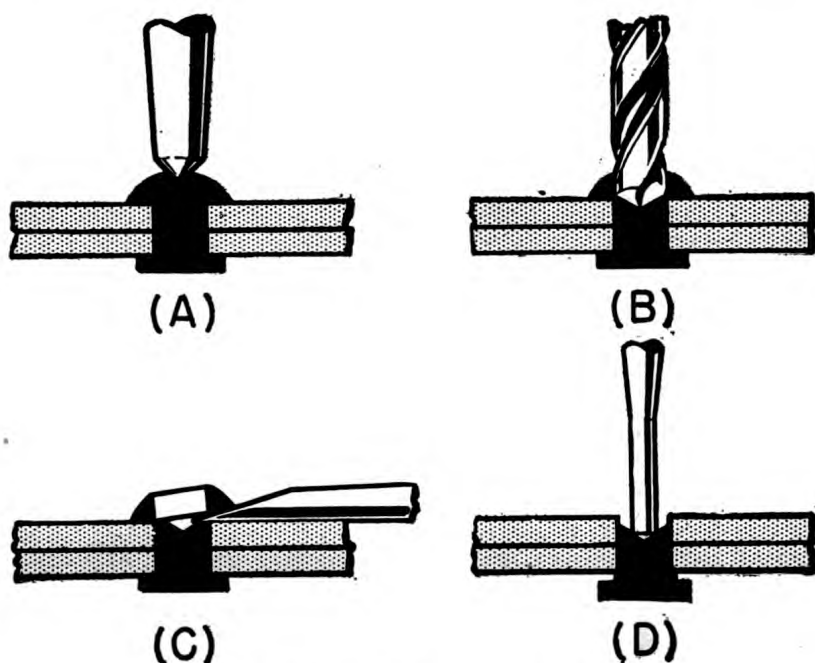

Figure 74.—Drilling out a rivet.
Lightly center punch the heads of the rivets as in (A) of figure 74.